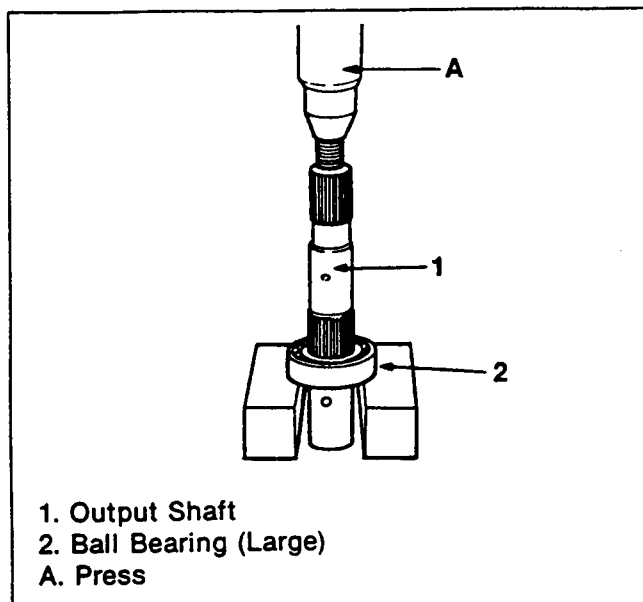

Figure 184. Ball Bearing (Large) Removal
2. Remove the ball bearing (large) with a press (figure 184).